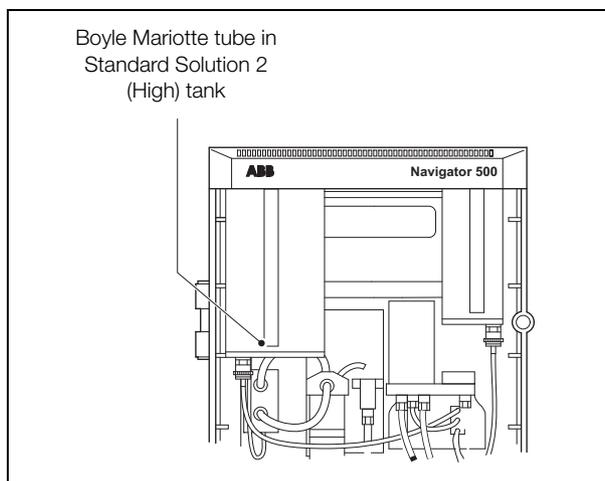

Fig. A.1 Boyle Mariotte tube in standard solution 2 (high) tank
2. Replace the standard solutions as a fresh solution may solve the problem. Check that the solenoid valve is energized (an audible click is produced when the calibration is initiated) and that the standard solution is flowing through the sensor – air bubbles should be visible at the bottom of the standard solution Boyle Mariotte tube – see Fig. A.1.